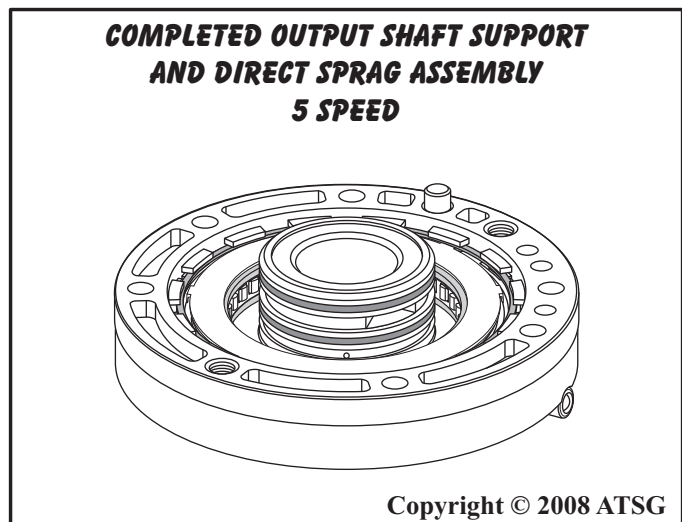

Figure 155
15. Set the completed output shaft support aside for the final assembly process (See Figure 155).